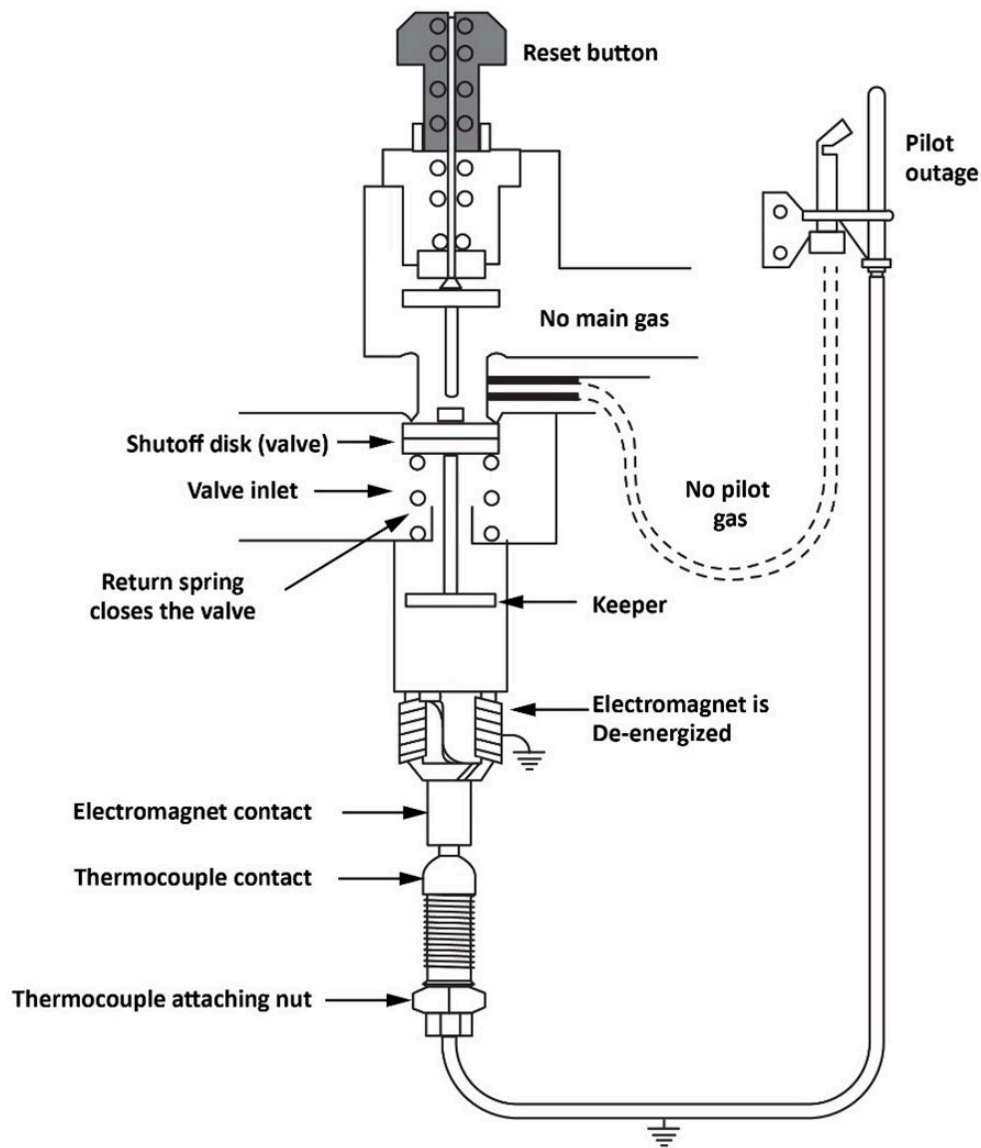

Figure 1 Thermocouple safety shut-off valve system, (closed position)
- Figure 1 “Thermocouple hot and cold junctions” by Camosun College is licensed under a CC BY 4.0 licence.
A safety shut-off valve can only be used where there is a constant pilot supervised by a thermocouple or thermopile. The safety shut-off valve is also referred to as a Pilotstat, as it thermally monitors the pilot flame. The safety shut-off valve is controlled by an internal electromagnet (solenoid) which is powered by the energy produced by the thermocouple being heated by the pilot flame. As long as the pilot is lit, the thermocouple supplies enough voltage to energize the safety shut-off valve. If the pilot light blows out, the thermocouple begins to cool and the current flow through the coil of the electromagnet weakens. This causes the magnetic field to weaken to the point where the spring force overcomes the electromagnetic force and the solenoid releases the keeper plate (Figure 1), and the valve snaps closed stopping the flow of gas.
In 100% safe systems, the valve shuts off the gas to both the main burner and the pilot light. Non-100% safe systems only shut off gas to the main burner. The safety shut-off valve is often one component within a combination gas valve. Figure 2 shows the thermocouple connected to the safety shutoff valve, that has been removed and placed in front of the appliance combination gas valve. The gas enters at the connection on the left therefore the safety shut-off valve is the first internal component, that the gas must flow through, within this combined gas valve. Since the closing of the Safety shut-off valve would stop the flow to both the pilot and main burners (Figure 1), this is referred to as a 100% safe system.